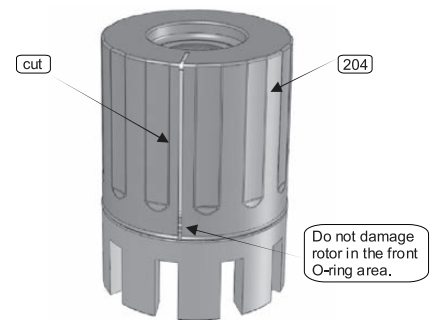

Figure 6.24 – Method B
- a. Support the rotor assembly (200) on the front edge of the sleeve (204) with the teeth facing down. Leave at least 25 mm (1") of clearance beneath the teeth. Then press the rotor down, separating it from the sleeve.
- b. Carefully cut the sleeve as shown in Figure 6.24. Be careful to avoid damaging the rotor in the area around the front O-ring. The sleeve will easily pull off the rotor after this cut is in place.
2. Remove the old magnet segments (203) from the inner ring (202).
3. Remove the front (206) and rear (205) sleeve O-rings from the grooves in the rotor.